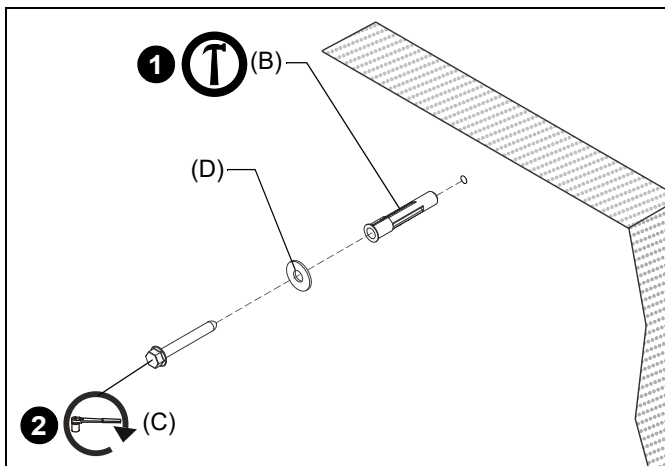

Figure 20
1. Install one UX10X60R anchor (B) into each pilot hole using a hammer, making sure that the anchor is flush with the wall. (See Figure 20)
2. Use one 5/16" x 2-1/2" hex flange head lag bolt (C) and one 5/16" washer (D) through product into each anchor in wall. (See Figure 20)